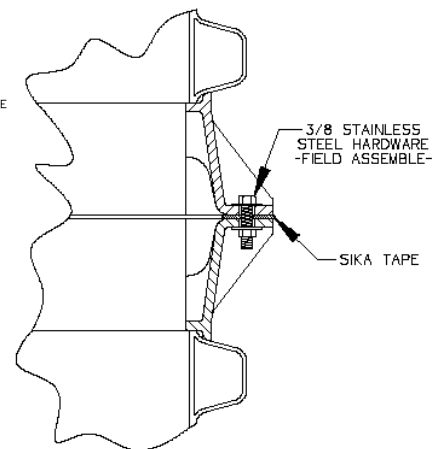

Figure 4b
5) Support the upper accessway section a few inches over the tank with the green stripes on each lined up. Once aligned, lower the upper section onto the mating flange using the three bolts to guide it to the proper position. See Fig. 4b.